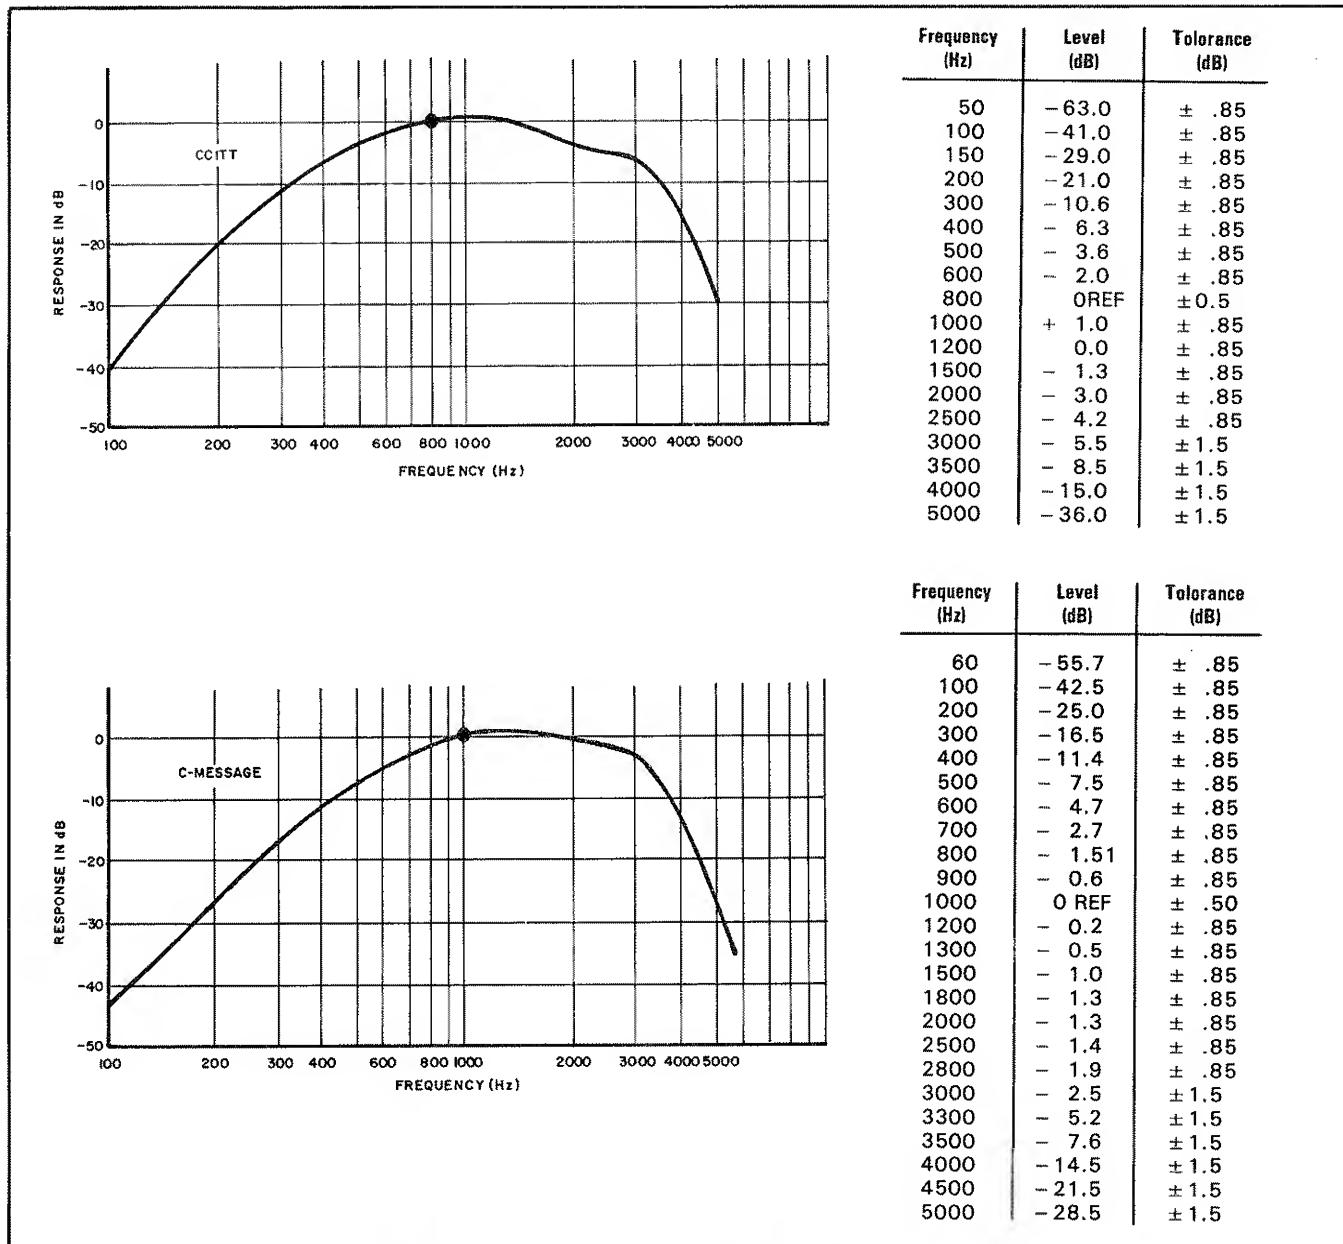

Figure 3-2-14. Weighting Curves Used For WTD 3100Hz Bandwidth Selection.
**3-2-90. WTD 3100Hz (Weighted).** The Weighted Bandwidth is used exclusively for noise measurements on telephone message channels. When the WTD Bandwidth is selected, either a psophometric (-hp- 3586A/CCITT version) or a C-Message (-hp- 3586B/Bell version) filter is placed in series with the 3100Hz Bandwidth filter. Both plots of these weighting curves are illustrated in Figure 3-2-14. Measurements of weighted noise signals correspond closely to subjective evaluations of the unweighted noise level.